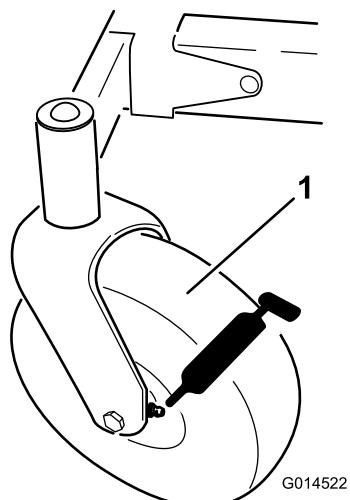
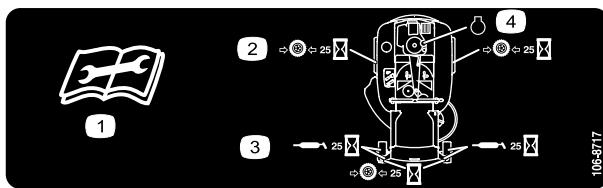

Figure 26
Figure 27
- Clean the grease fittings (Figure 26 and Figure 27) with a rag.
- Connect a grease gun to each fitting (Figure 26 and Figure 27).